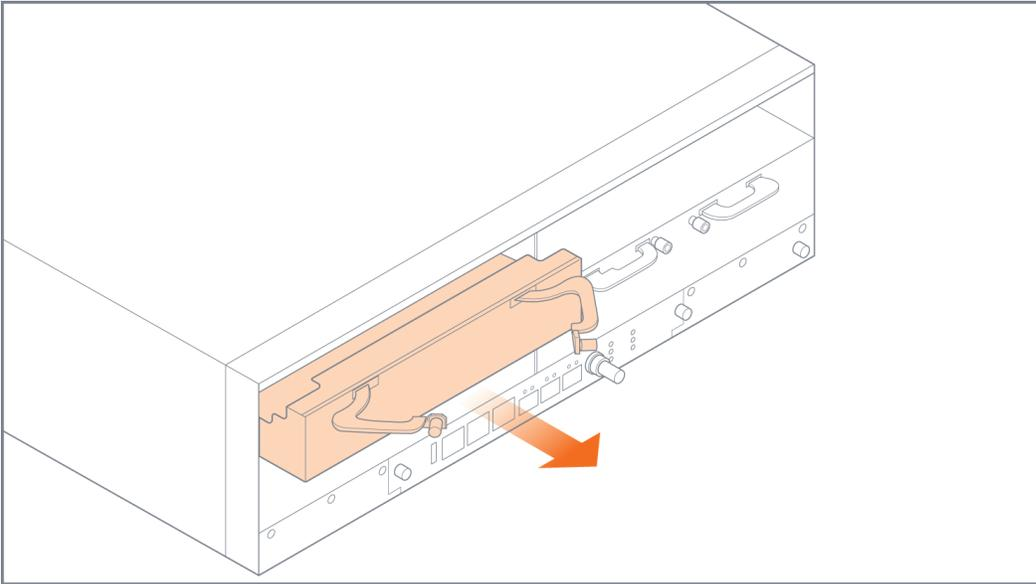

Figure 9 *Filler Panel Removal*
6. Remove a filler panel as shown in Figure 9 **Filler Panel Removal**.